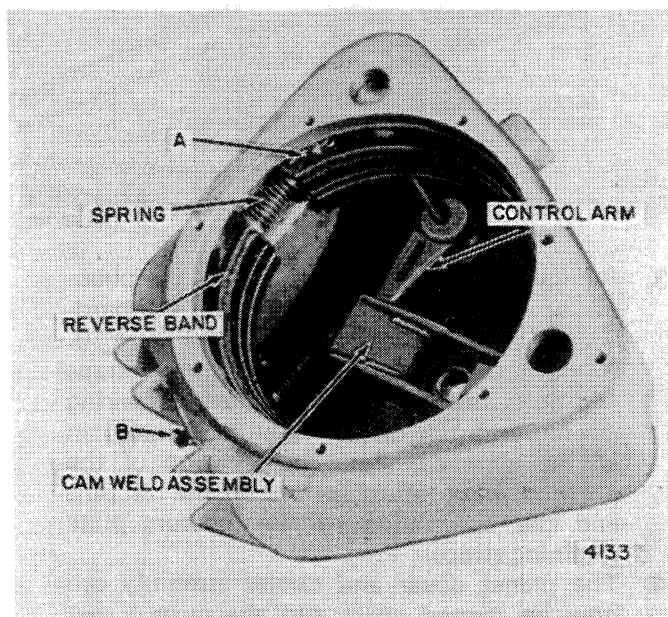
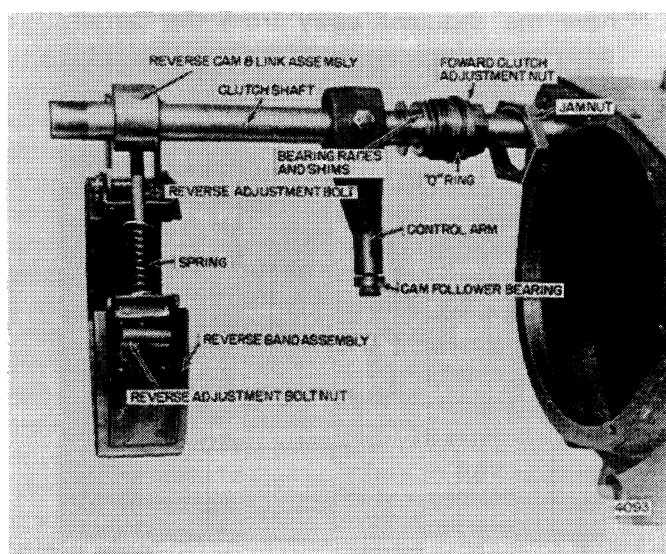

FIGURE 16
FIGURE 17
9. The reverse band, Figure 16, assembly can be removed by loosening the reverse adjusting bolt lock. Turn out the adjusting bolt. Remove the cotter pin from the drilled rod A, Figure 16. The reverse band can be squeezed together and removed from the gear box. Don't lose the drilled and tapped rod which serves as a nut for the reverse adjusting bolt.
10. The clutch shaft, Figure 17, (shows all parts in place but removed from the gear box) can
11. Figure 17 shows the relative position of all parts on the clutch shaft. If the shaft has been removed be sure all parts are replaced in the proper location (particularly note that the keys are in place under the control arm and the reverse activating collar) otherwise the reverse will not work. The control arm must be located between the cam weld assembly and the end of the gear box, Figure 16.
14. Replace all other parts that have been removed. Be sure there are sufficient shims under adjustment nut A, Figure 18 so that the O-ring, Figure 17 seats on the smooth finished surface and not on the threads of the nut.
16. If it should be necessary to adjust the reverse band support stud, B, Figure 16, the lock nuts should be loosened and the threads tightened until resistance is felt against the band. The stud should then be backed off one half turn and the nuts tightened.